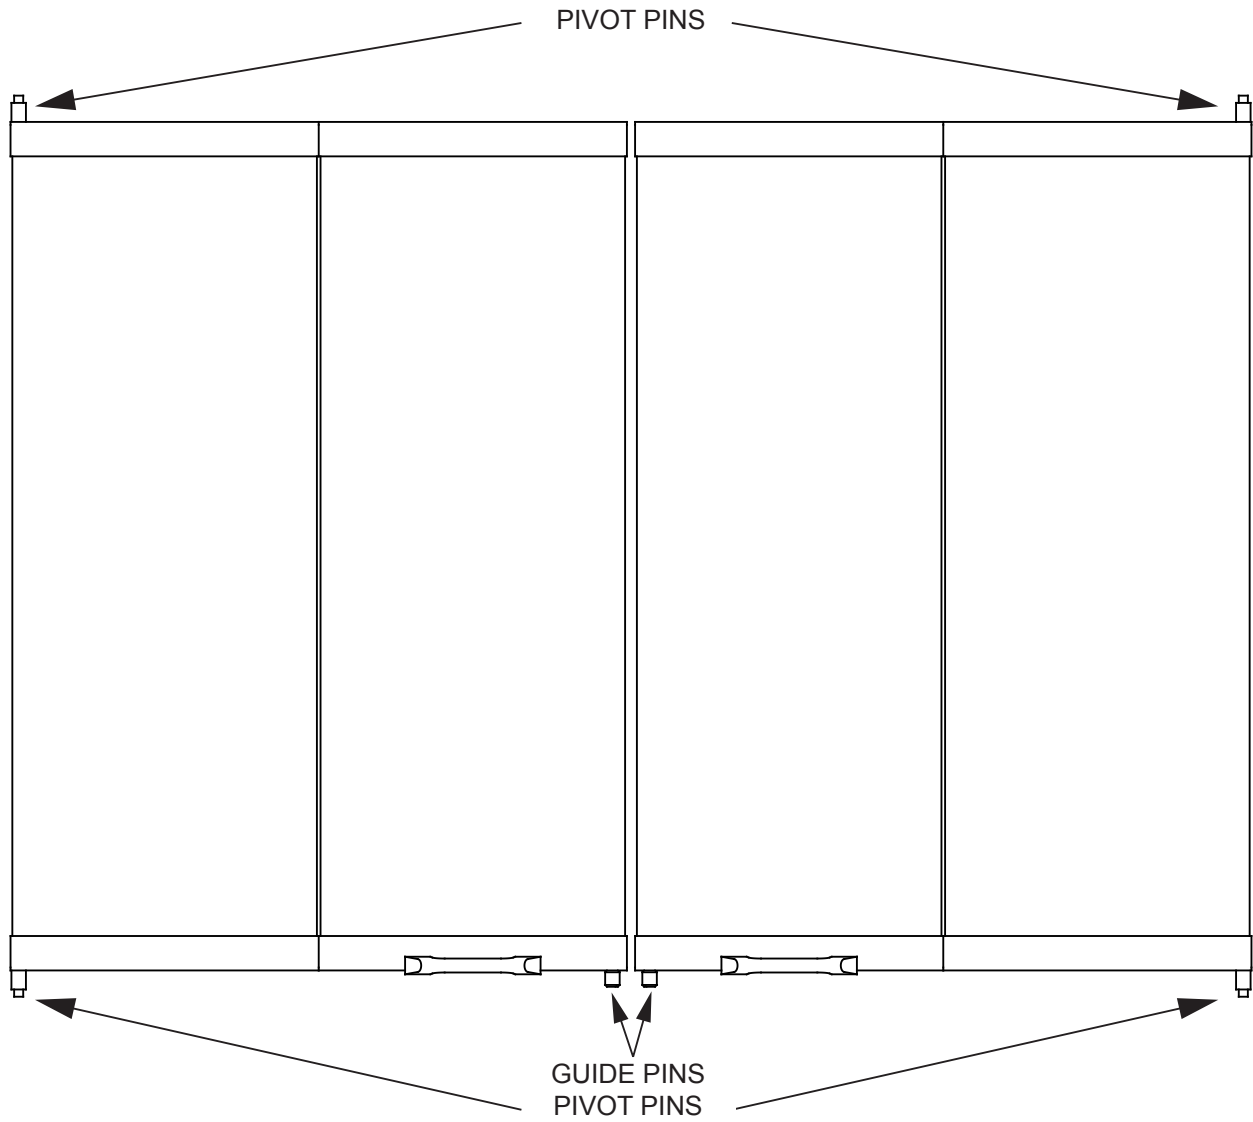

Figure 10
11. The Glass Doors will be oriented as shown in **Figure 10**, with the Pull Handles on the bottoms of the inner panels.